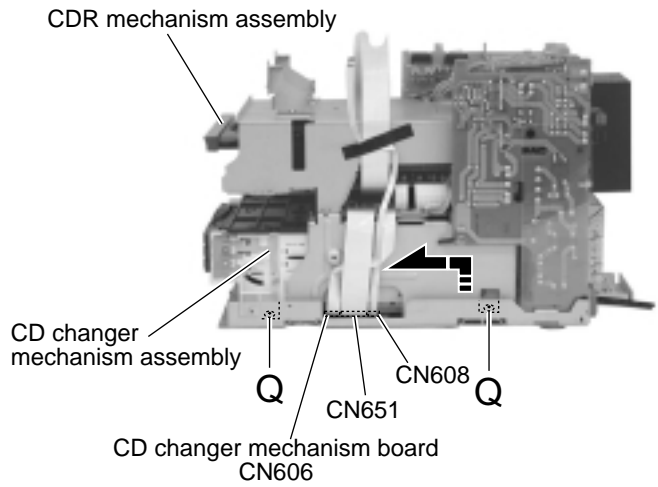

Fig.31
■Removing the CD changer mechanism assembly (See Fig.31 to 33)